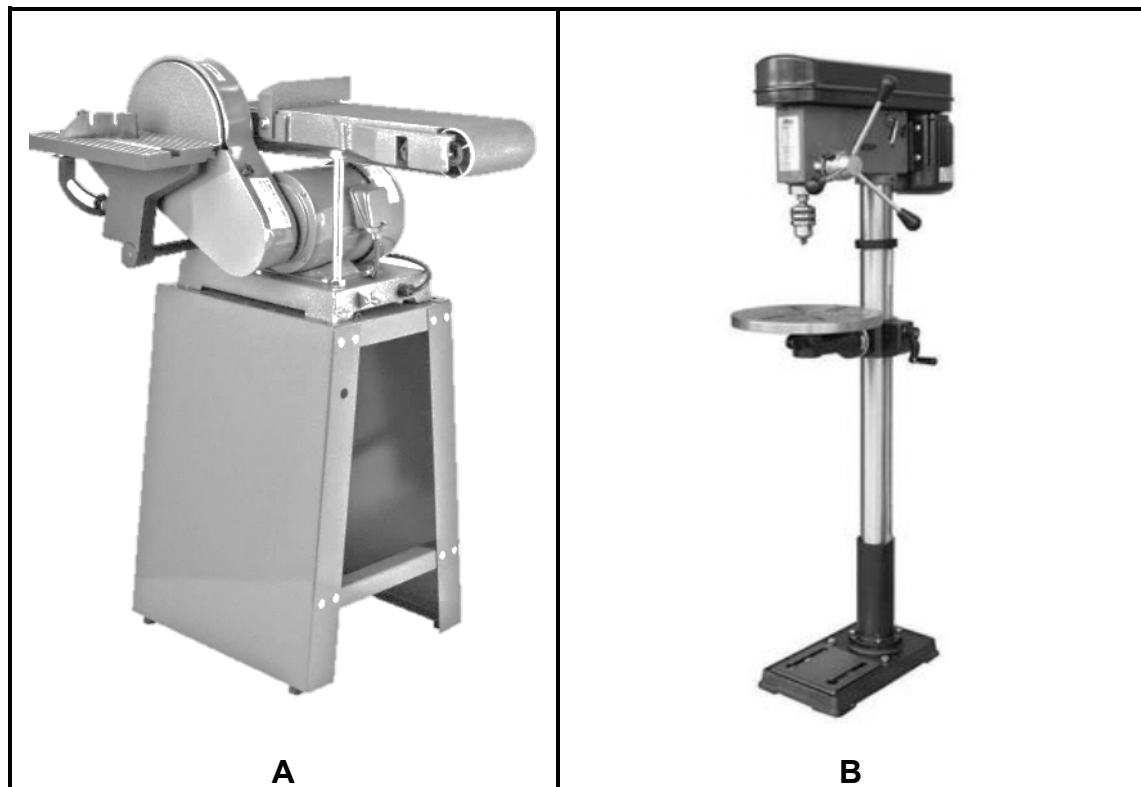

FIGURE 4.2
- D truss hangers. (1)
4.2 FIGURE 4.2 below shows different woodworking machines.